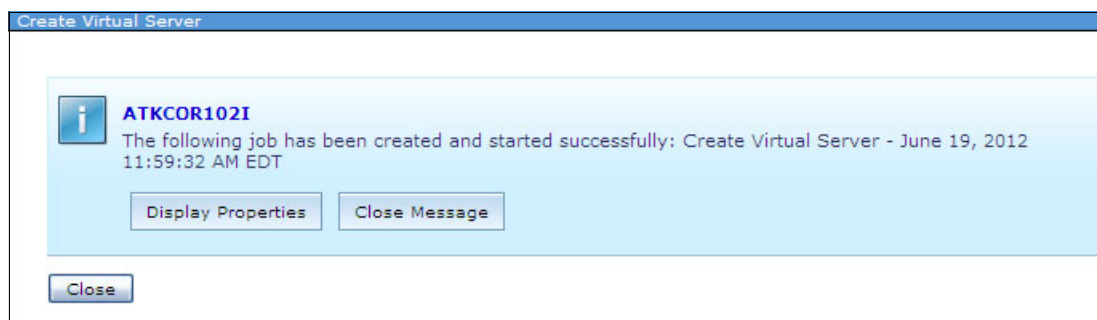

Figure 11-14 Create Virtual Server job message box
14. Click **Display Properties** in the Create Virtual Server window to see the job status (see Figure 11-14).